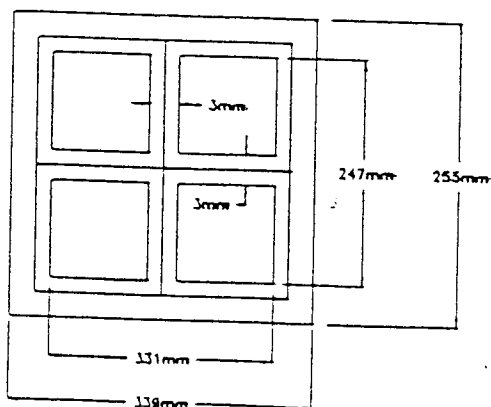

Fig. 4.3.1.6 Geometry Target Limits
Pre-adjust brightness to approximately 15FL with raster visible. Video must be centered in raster (R229) such that left hand visible raster is equal to or 2mm larger than right hand visible raster (see Fig. 4.3.1.4). The width control may be adjusted to bring the raster edges just within the bezel opening.
Start with circular magnets (centering magnets) in neutral position i.e. slotted ear of one magnet aligned with plain ear of other magnet, both positioned so that the ears are in the horizontal position of raster. Adjust magnets simultaneously and in opposite directions so as to avoid bending horizontal lines and centering active image within bezel gauge. (see Fig. 4.3.1.6).
This should center horizontally and vertically a cross hair target pattern such that center lines are within the target windows of Fig. 4.3.1.6 The vertical center line shall be at $90^\circ \pm 0.5$ to the horizontal center line within a 2" radius of screen center.
- Turn R504 (dynamic focus modulation) to minimum. (CW)
- Tune T501 (dynamic focus phase) with non metallic screw driver to obtain symmetrical pattern as per Fig. 4.3.1.8.1 with respect to video waveform.